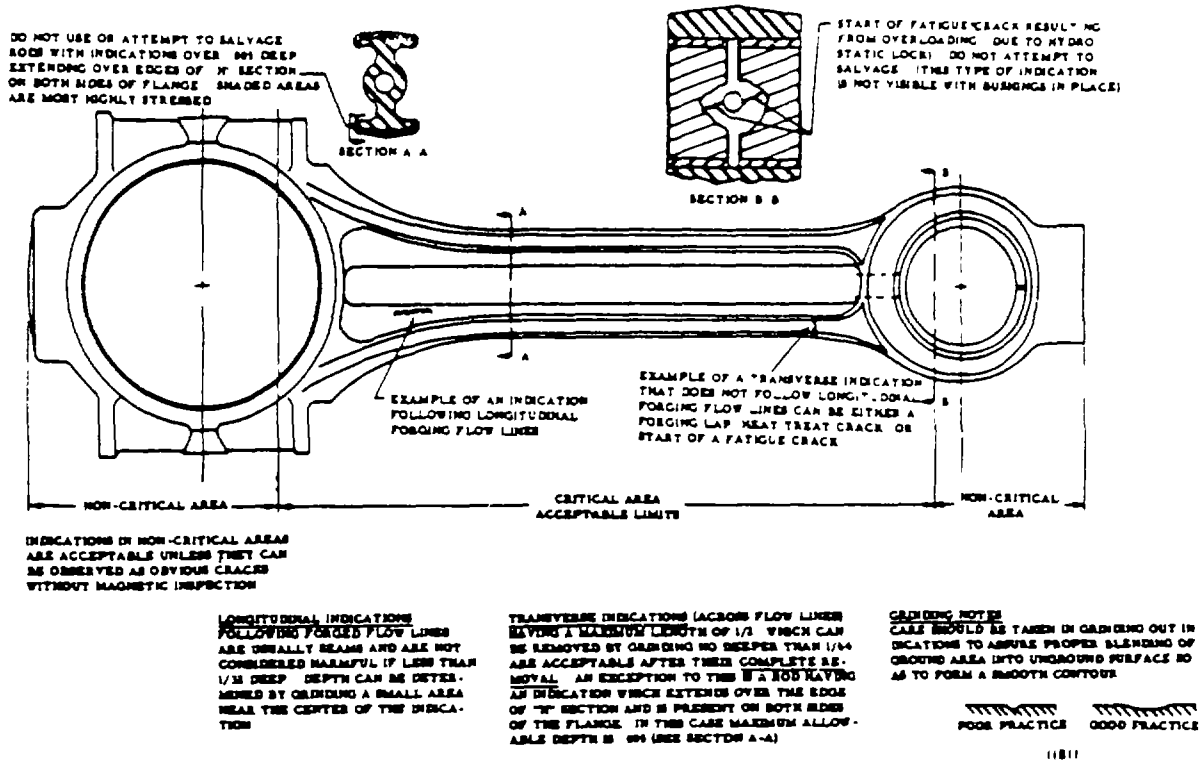

Figure 4-25 . Magnetic Particle Inspection Limits for Connecting Rod .
- (3) Visually check connecting rod for twist or bending.
- (4) Check connecting rod for cracks by the magnetic particle method as shown in figure 4-25.